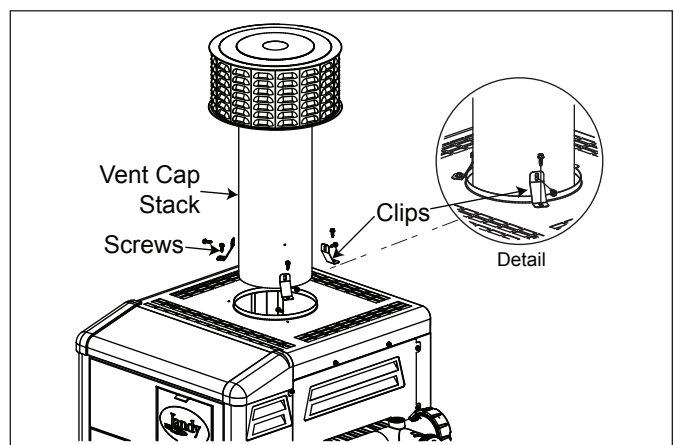

Figure 6. Installation of the Vent Cap Stack
9. Place the stack extension (or draft hood bottom) through the top enclosure vent hole and fit the stack extension on the top of the collar of the flue transition plate. See Figure 6.
10. Attach the three (3) clips to the top enclosure using three (3) screws supplied the kit. See Figure 6.
11. Secure the vent cap stack to the clips with three (3) screws supplied in the kit. Align slotted holes in clips to the holes on the vent cap stack and fasten using the screws supplied in the kit. See Figure 6.